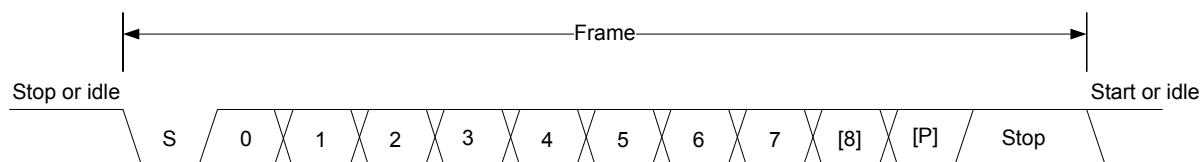

Figure 20.2. LEUART Asynchronous Frame Format
The frame format used by the LEUART consists of a set of data bits in addition to bits for synchronization and optionally a parity bit for error checking. A frame starts with one start-bit (S), where the line is driven low for one bit-period. This signals the start of a frame, and is used for synchronization. Following the start bit are 8 or 9 data bits and an optional parity bit. The data is transmitted with the least significant bit first. Finally, a number of stop-bits, where the line is driven high, end the frame. The frame format is shown in Figure 20.2 LEUART Asynchronous Frame Format on page 693.